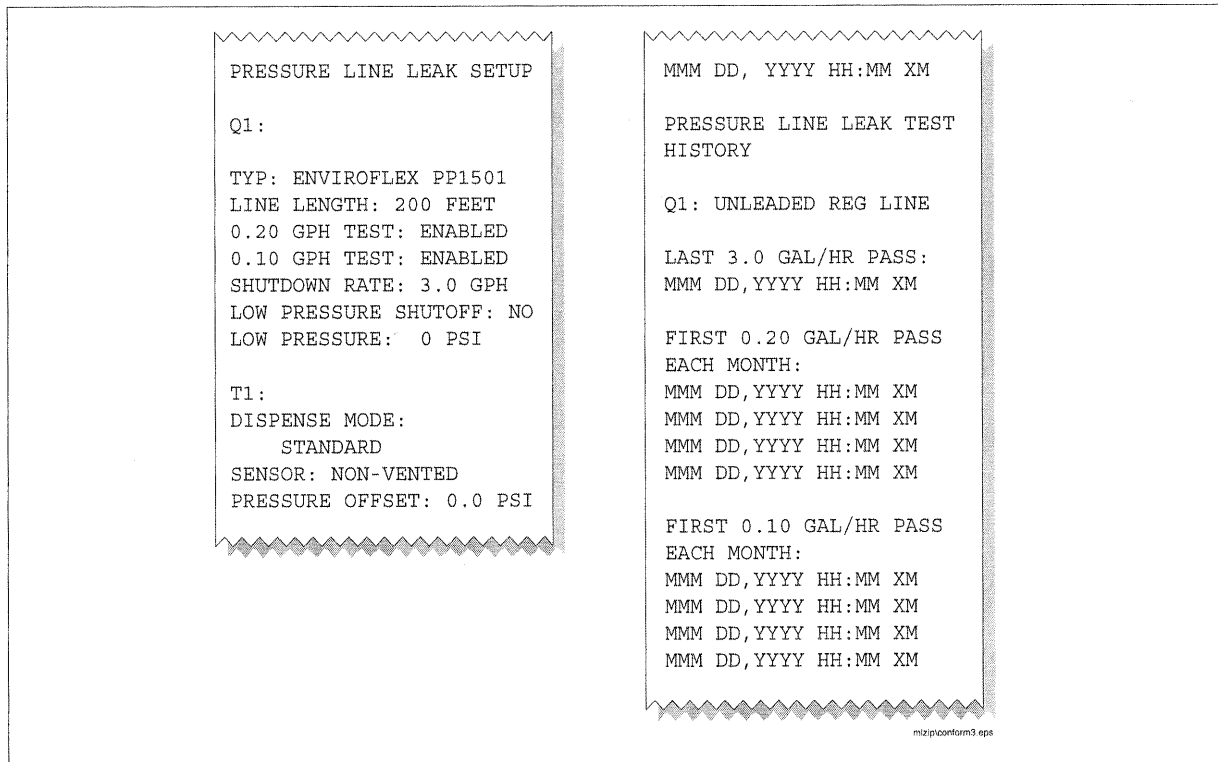

Figure 1. Pressure Line Leak Setup and History Report Examples
- Verify that the TLS Console is programmed correctly for the Site and the application. Print out the applicable line leak setup and line leak test history before you start the testing (see Figure 1).